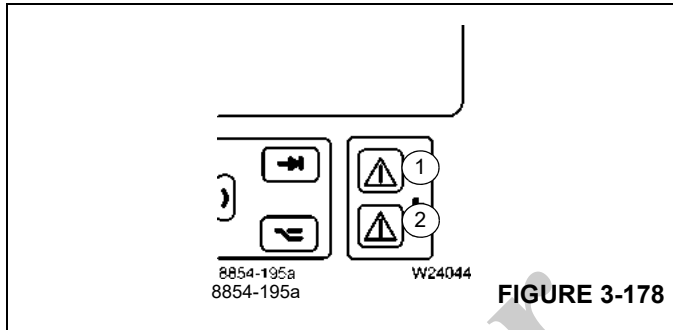

FIGURE 3-178
| Amber Indicator on solid (2), (Figure 3-178) | Degree of utilization 90 – 100% – buzzer tone pulsates             |